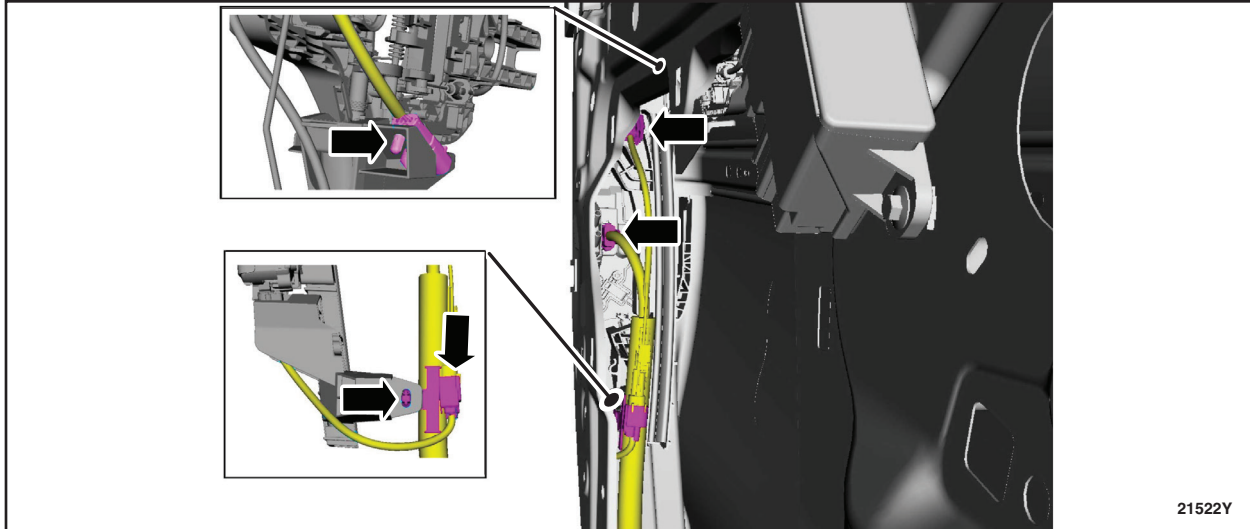

**FIGURE 34**
20. Remove the front door glass run and bracket bolts. See Figure 34.